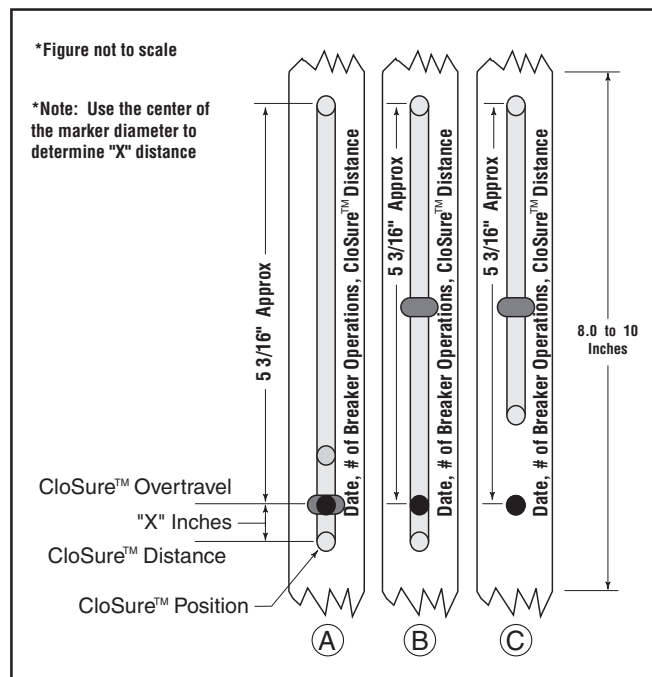

Figure 6-16 Illustrative Testing Tape Sample
General Information: The CloSure™ Test can be performed on the VCP-W, VCP-WR, VCPW-ND, DHP-VR, W-VACR, and W-VAC lines of vacuum circuit breakers. Refer to Table 6-4 for a list of circuit breakers. If the CloSure™ travel obtained is as specified, the mechanism performance is satisfactory. If the CloSure™ travel does not conform as shown in Figure 6-16, contact Eaton's Electrical Services & Systems for further information. (See Step 13).
Step 13 - Evaluate the CloSure™ performance by comparing the test tape with illustrations in Figure 6-16. If the marking is similar to 6-16A, measure the over travel "x": If "x" is greater than or equal to 0.6 inches, the circuit breaker performance is satisfactory. If "x" is less than 0.6 inches or if the marking is similar to 6-16B or 6-16C, immediately contact the Production Integrity Center for Technical Support at (412) 787-6518.